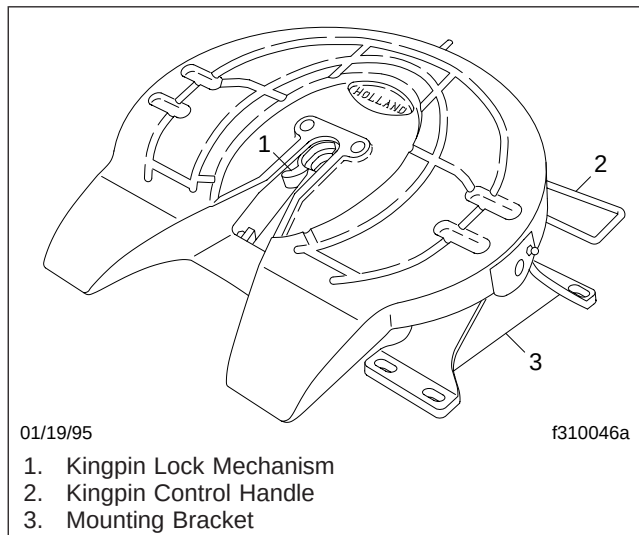

Fig. 10.1, Holland Fifth Wheel
The 2535 sliding fifth wheel models incorporate a Model 3500 fifth wheel (**Fig. 10.1**), equipped with either an air-operated release slide, or a manual release slide. Sliding fifth wheel assemblies are mounted on a baseplate that permits forward and rear movement along notched rails. Plungers are meshed into teeth on the baseplate to lock the sliding mechanism. Disengagement of the sliding member is accomplished when the plungers are withdrawn (manually or air-operated), releasing the fifth wheel assembly so that it can be positioned for optimum weight distribution over the tractor axes.
6. Release the kingpin locking mechanism by pulling the kingpin lock control handle (Fig. 10.1) to the outward position.